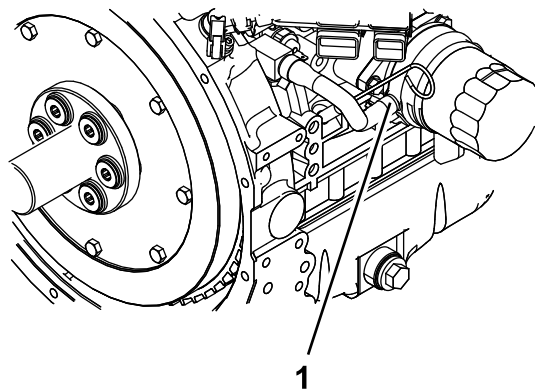

Figure 59
6. Remove the coolant hose from the oil cooler and drain the coolant from the engine block (Figure 59).